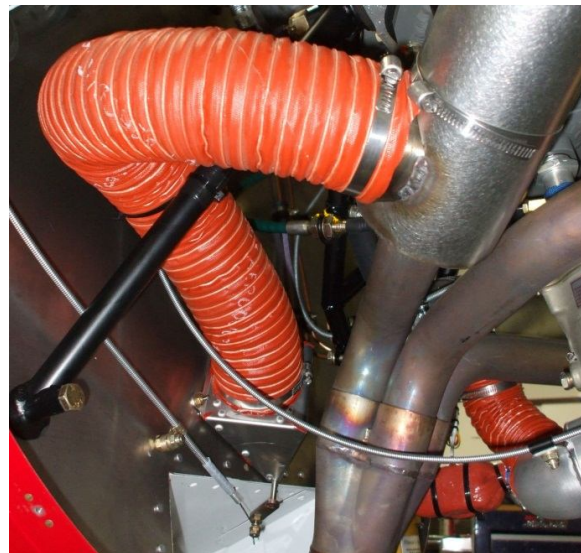

Figure 5
9. Clamp a piece of SCAT (RM006-002) approx. 20" long to the inlet on the new cabin heat control box and route it to the outlet of the collector on the #3 exhaust collector going above/behind the lower right tube on the engine mount (Figure 5). Wrap the engine mount with 1-2 layers of silicone chafe tape and secure the SCAT to the engine mount with cable ties. Ensure the SCAT does not contact any wires or control cables. Secure using cable ties as needed.